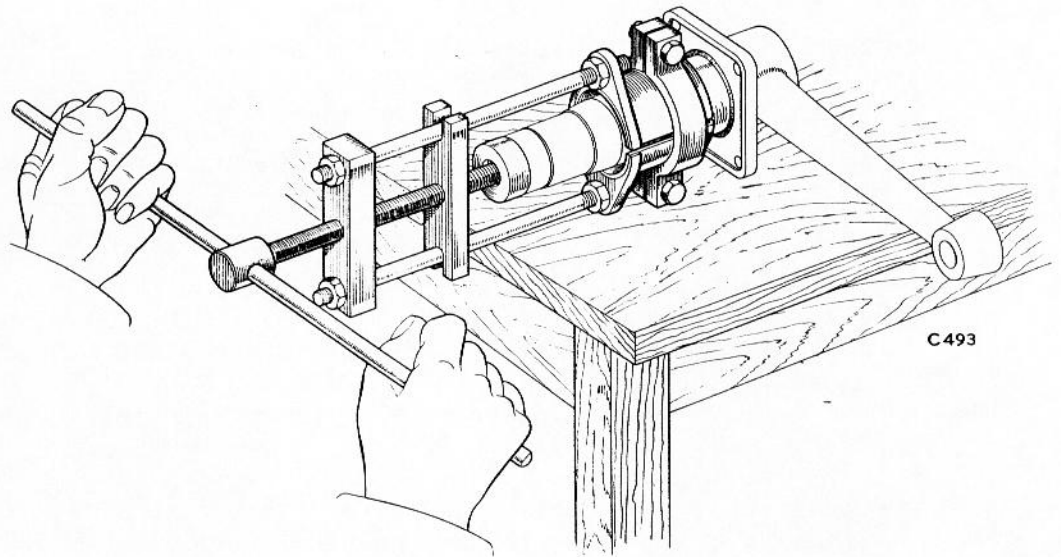

Fig. 30 Rear needle roller inner race extractor.
1. Using the extractor TFN.5070 as shown in Fig. 30, remove the inner race of the needle roller bearing from the mainshaft.